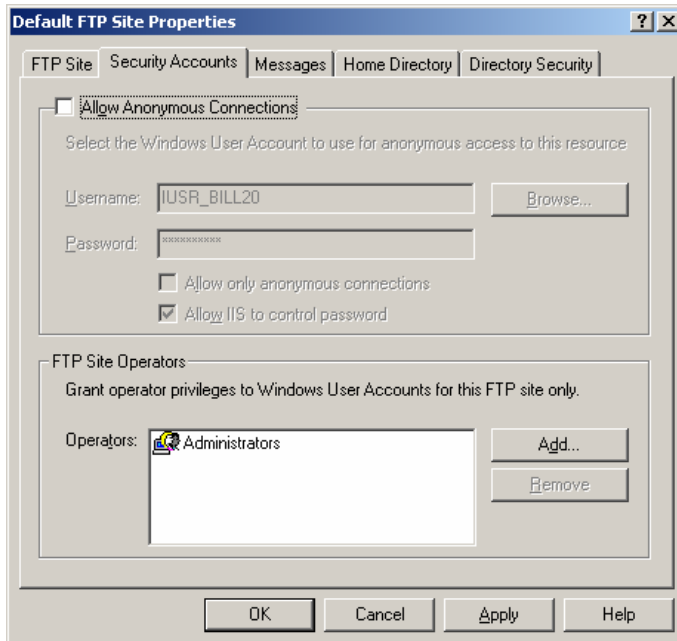

Figure 2-65 [Security Accounts] tab
3) Click the [Security Accounts] tab. See Figure 2-65.